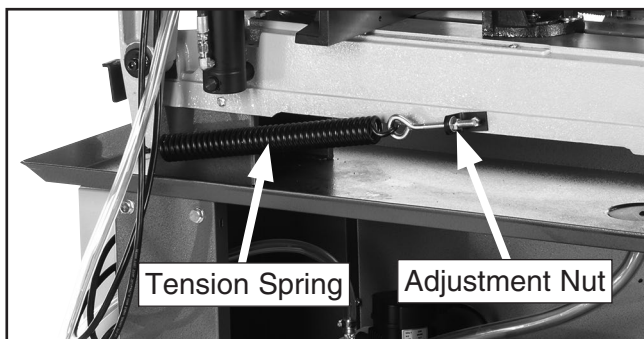

Figure 32. Feed pressure controls.
1. Raise headstock to highest position to remove tension on tension spring (see **Figure 32**).
2. Tighten adjustment nut (see **Figure 32**) enough to remove tension spring play but not enough to apply tension to spring.